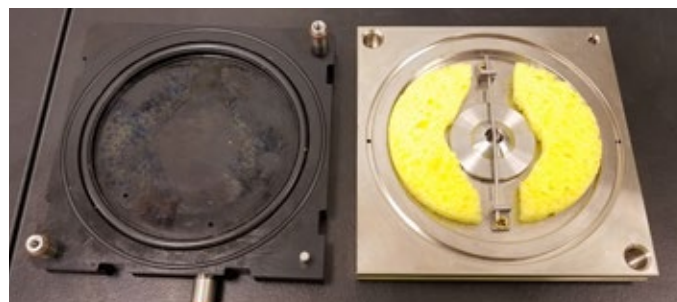

Figure 2. Contact Lens Test Cell with wet sponge in cell
The most common test temperature setting to conduct a soft contact lens test is 35C, and the most common relative humidity (RH) setting is > 90% RH. This RH condition can be achieved by setting 90% RH (with the OX-TRAN 2/22 H) for both the test gas and the carrier gas side, and placing wet sponges in the test gas side. See Figure 2.